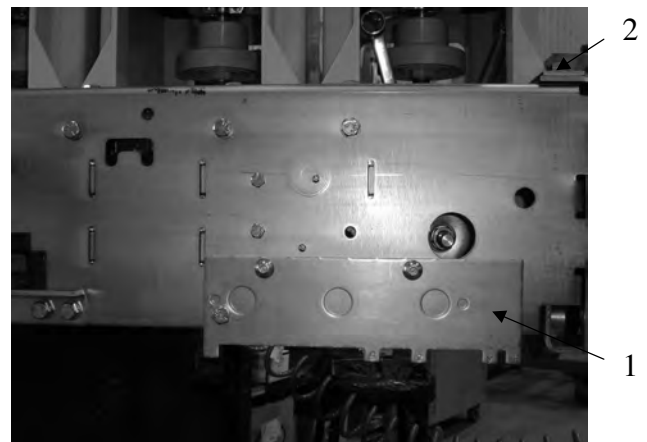

Figure 2 Rating interference plate
This interlock (item 1, Figure 2) permits only a breaker with a matching continuous current, voltage and interrupting rating to be inserted into a metalclad compartment of identical rating.